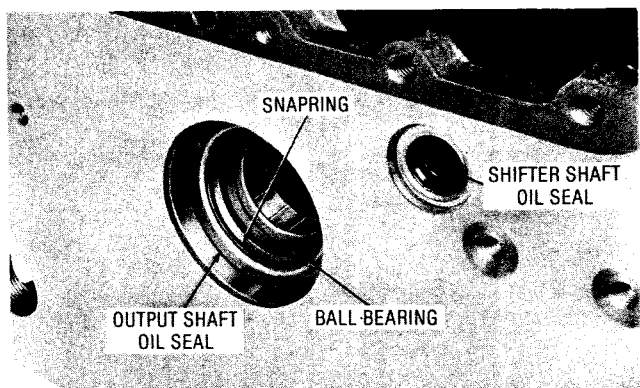
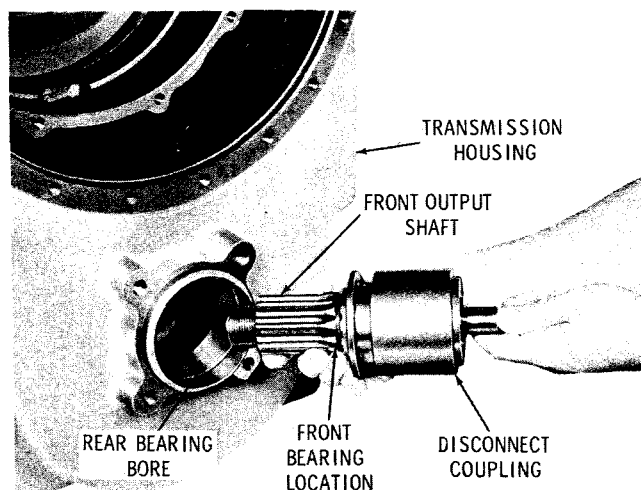

Fig. 7-5. Output shaft front bearing and sealring (-1 models)
Fig. 7-6. Installing front output shaft and disconnect coupling (-1 models with two-piece output shaft)
(1) If the front output shaft bearing was removed, replace the bearing, shield side last, into the housing bore (fig. 7-5). Seat the front bearing firmly against the shoulder in the bore, and install the snapping against the bearing outer race.
(2) Install a new output shaft oil seal, spring-loaded lip first, and press it squarely into the bore until it is lightly seated against the counterbore shoulder (fig. 7-5).
(3) Install a new shifter shaft oil seal, spring-loaded lip first, and press it squarely into the bore at the front of the housing, until it is lightly seated against the counterbore shoulder.
(4) Install one ball 14 (foldout 17,A), spring 15, and another ball 14 into front output shaft 13. While holding these balls against the spring pressure, slide disconnect coupling 20, grooved end first, onto shaft 13 until the rear end of the coupling is flush with the shaft rear splines (disengaged position) (fig. 7-6).
(5) Install the front output shaft and assembled disconnect coupling, threaded end first, into the rear output shaft bearing bore (fig. 7-6). Support the inner race of the front output bearing (fig. 7-5), and seat the shoulder of the front output shaft against the bearing.